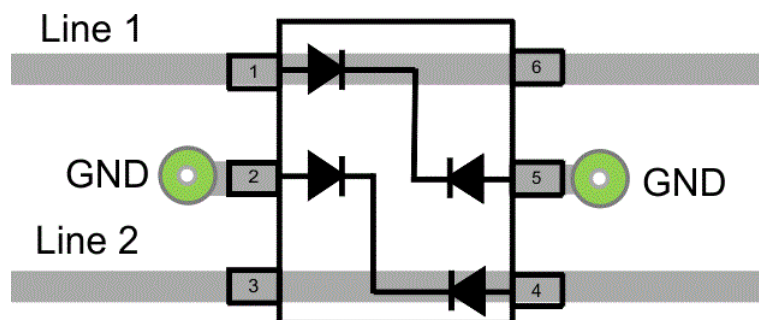

Figure 14. Routing Option 2
(4) Using Routing Option 2, Figure 14.